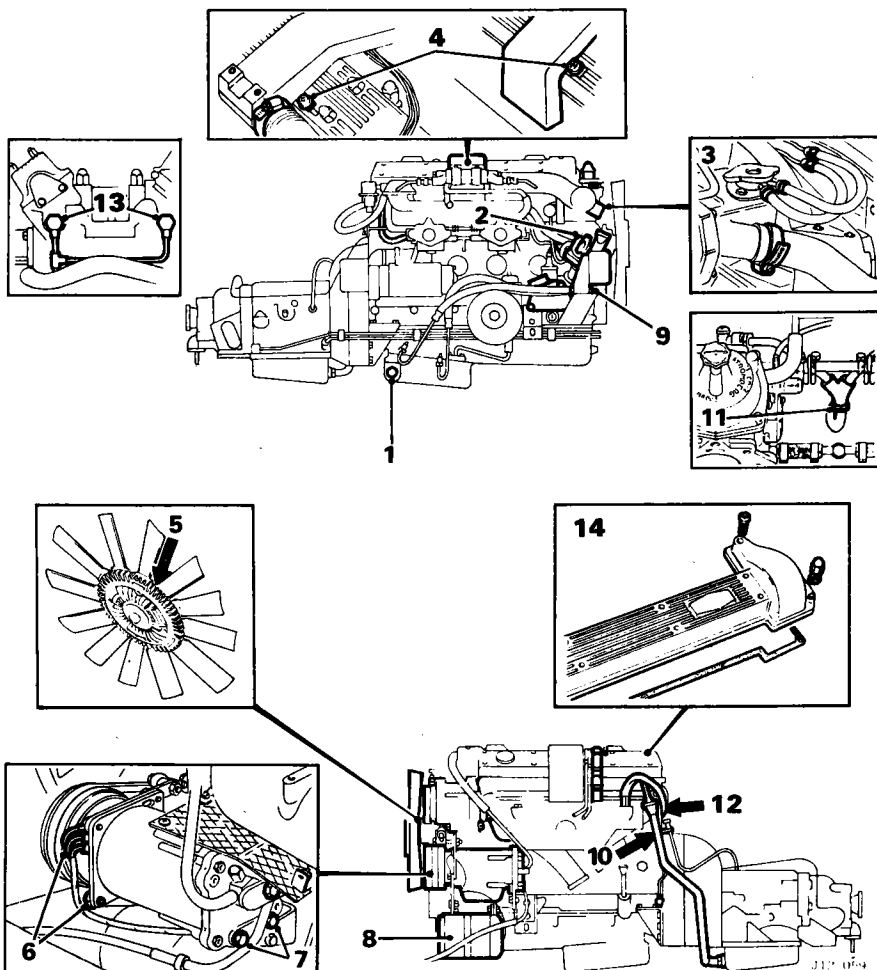

Fig. 56
Drain the engine oil. For plug see item 1, Fig. 56.
Remove the distributor cap (2, Fig. 56); pull the vacuum pipe from the capsule.
Slacken the clips (3, Fig. 56) on the coolant pipes at the front of the engine.
Remove the two screws (4, Fig. 56) securing the hot air duct on 3.4 litre cars only.
Remove the four plain nuts (5, Fig. 56) and spring washers securing the fan and Torquatrol unit to the water pump pulley.
Remove the air-conditioning compressor (6, Fig. 56) and bracket (7, Fig. 56)—cars fitted with air-conditioning only.
Remove the alternator and bracket (8, Fig. 56).
Remove the power assisted steering pump and bracket (9, Fig. 56).
Remove the nut securing the automatic transmission unit filler tube bracket (10, Fig. 56)—cars fitted with automatic transmission only.
Release the union nut at the E.G.R. system 'Y' piece (11, Fig. 56).
Remove the setscrew at the rear of the cylinder block securing the E.G.R. system supply pipe (12, Fig. 56).
Remove the camshaft oil feed pipe banjo bolts (13, Fig. 56).
Remove the ten dome headed nuts (14, Fig. 56) and two cross-head screws securing each camshaft cover.